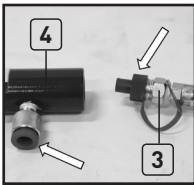

Fig.1
1. Unscrew the end caps from the Hydraulic Hose w/Coupling (3) and hydraulic Ram (1) [Fig1].